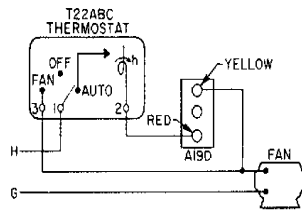

Fig. 5 -- Wiring the A19D as a low cutout unit heater control.
2. On low cutout control applications, follow equipment manufacturer's wiring recommendations whenever possible. Fig. 5 shows a common wiring hookup for this application.